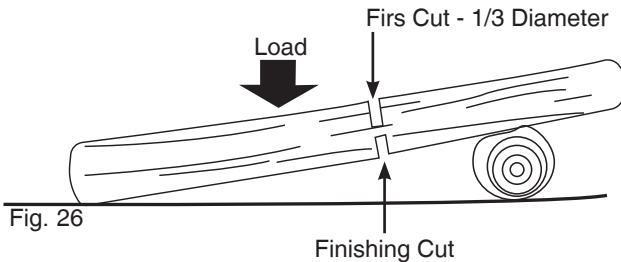

Fig. 26
2. When the log is supported on both ends (Fig. 26): First, overbuck 1/3 of the way through the log to avoid splintering. Second, underbuck to meet the first cut and avoid pinching.